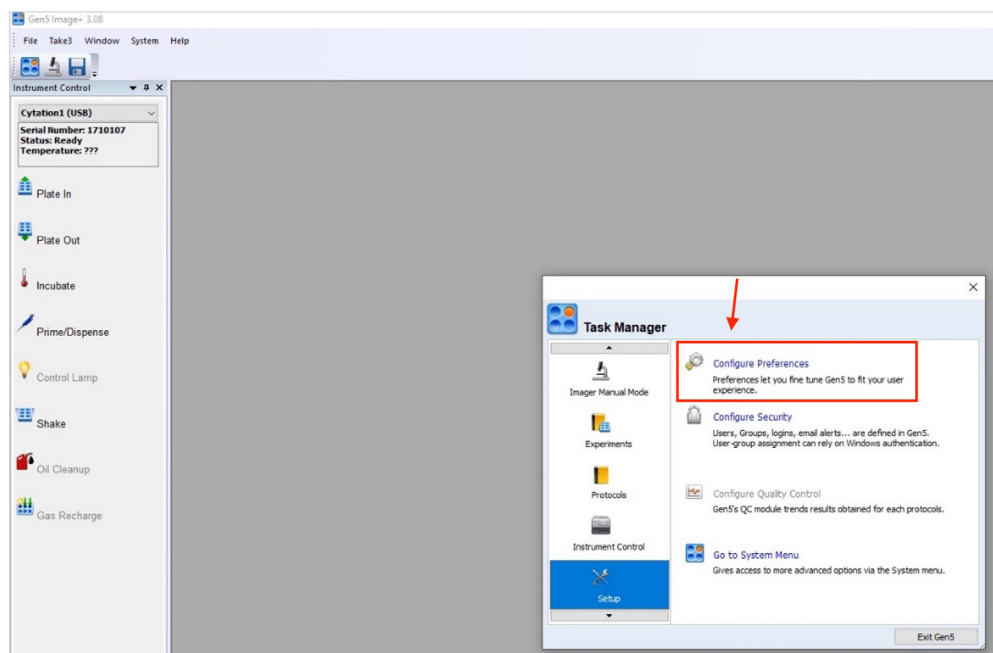

Figure 7. **Configure Preferences** in the **Setup** option in the **Task Manager**.
- b Click **Configure Preferences** (Figure 7).